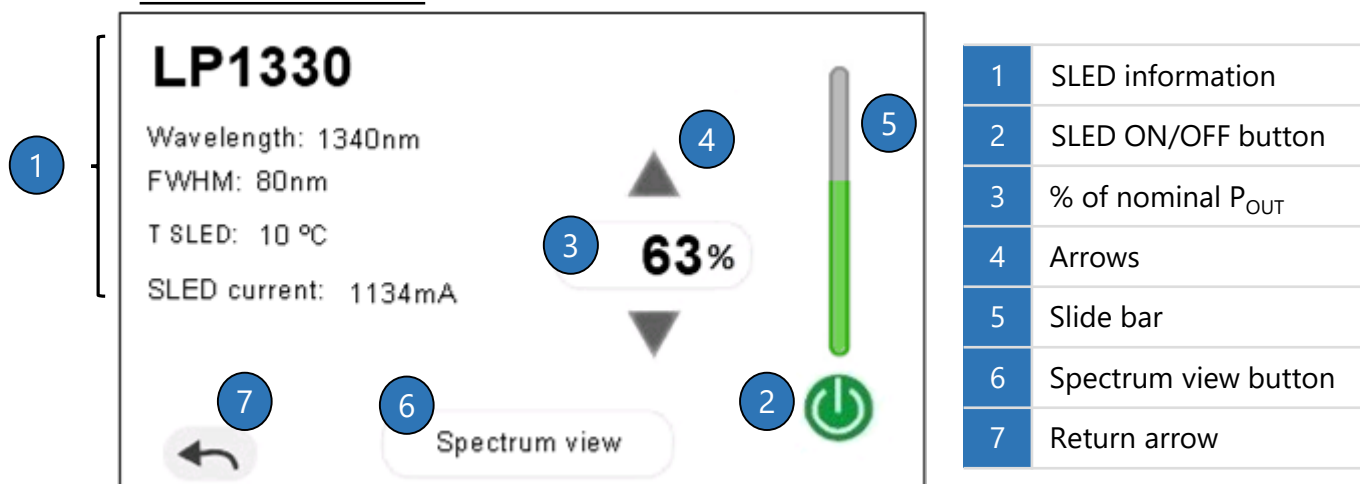

Figure 2. SLED screen
Each SLED contained in the FJORD light source possesses a small rectangle (2) in the initial screen with its name (3), the percentage of the nominal output power (4) and a status circle (5) on the upper right corner of the rectangle. To access to more detailed information about the SLED (see **Figure 2** on the next page), please touch the rectangle.